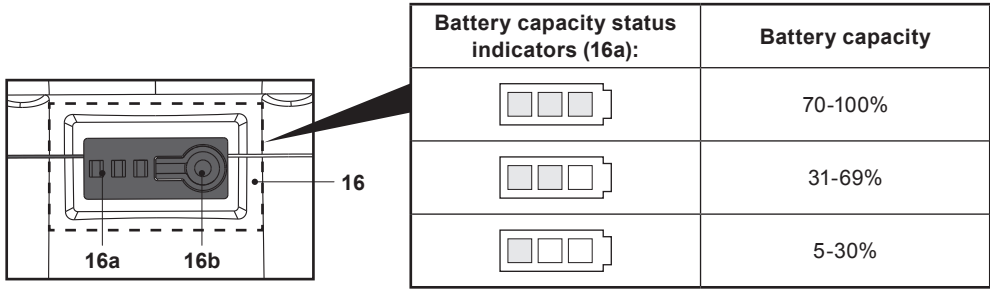

Fig. 4
The battery pack (16) is equipped with the battery capacity indicators (16a) which are used to give an indication of the battery pack's remaining capacity. Press the battery capacity button (16b) to check battery capacity (Fig. 4). The LEDs will stay lit for approximately 2 seconds.